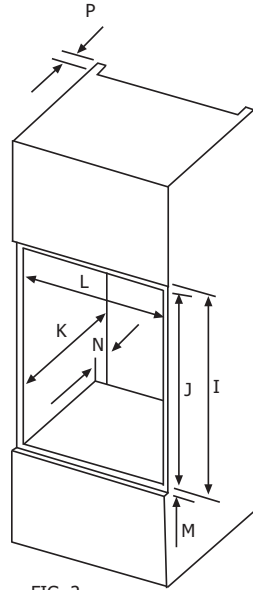

FIG 2
Refer to FIG.2 for the dimensional requirements.
4. Ventilation is required for the product, to allow it to function correctly, a cutout should cut into the top of the housing unit (see FIG.2), to provide this.
The appliance is designed to fit into a standard 600mm wide housing unit, with minimum internal dimensions as shown in FIG.2 of the installation dimensions.